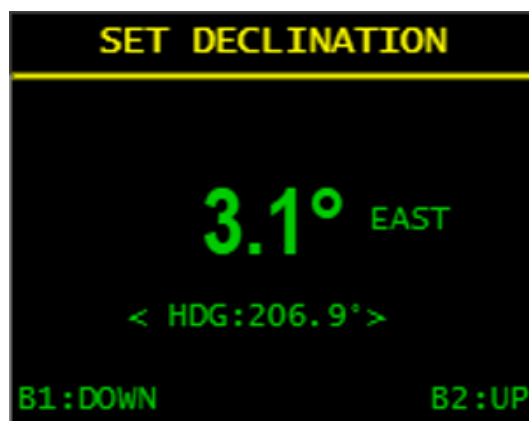

Fig 58 - Set Declination
- B2** or short press right button, to set East declination degree (See **Fig 58 - on p. 30**)